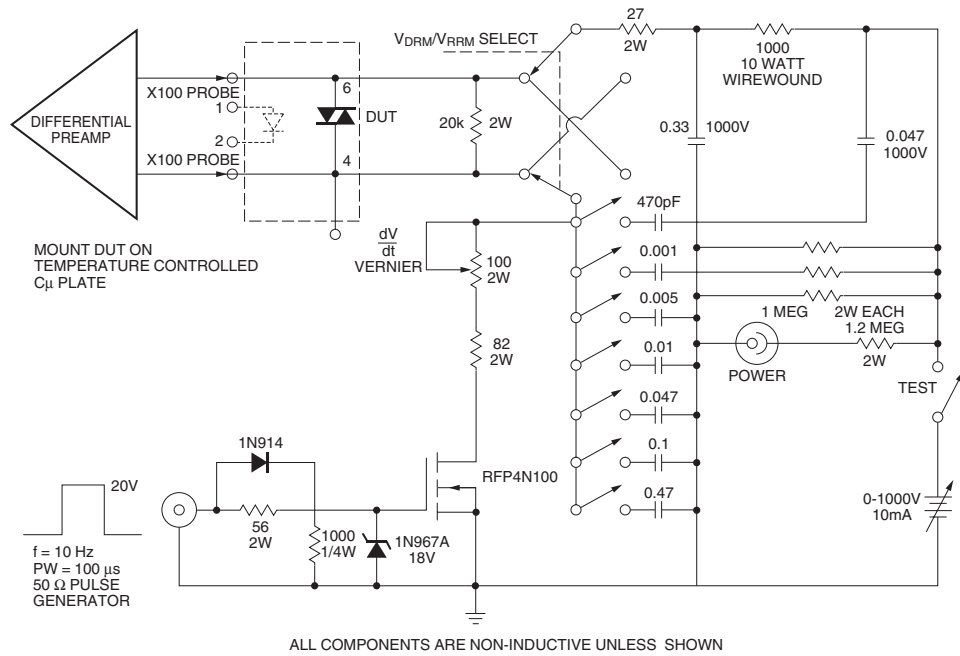

Figure 9. Circuit for Static  $\frac{dv}{dt}$  Measurement of Power Thyristors
3. This is static dv/dt. See Figure 9 for test circuit. Commutating dv/dt is a function of the load-driving thyristor(s) only.